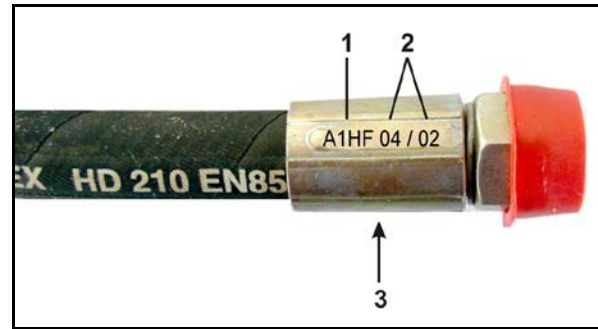

Fig. 163
1. Unscrew the magnetic cap (Fig. 163/1) abschrauben.
2. Remove the solenoid (Fig. 163/2) abnehmen.
3. Unscrew the valve rod (Fig. 163/3) with valve seats and clean with compressed air or hydraulic fluid